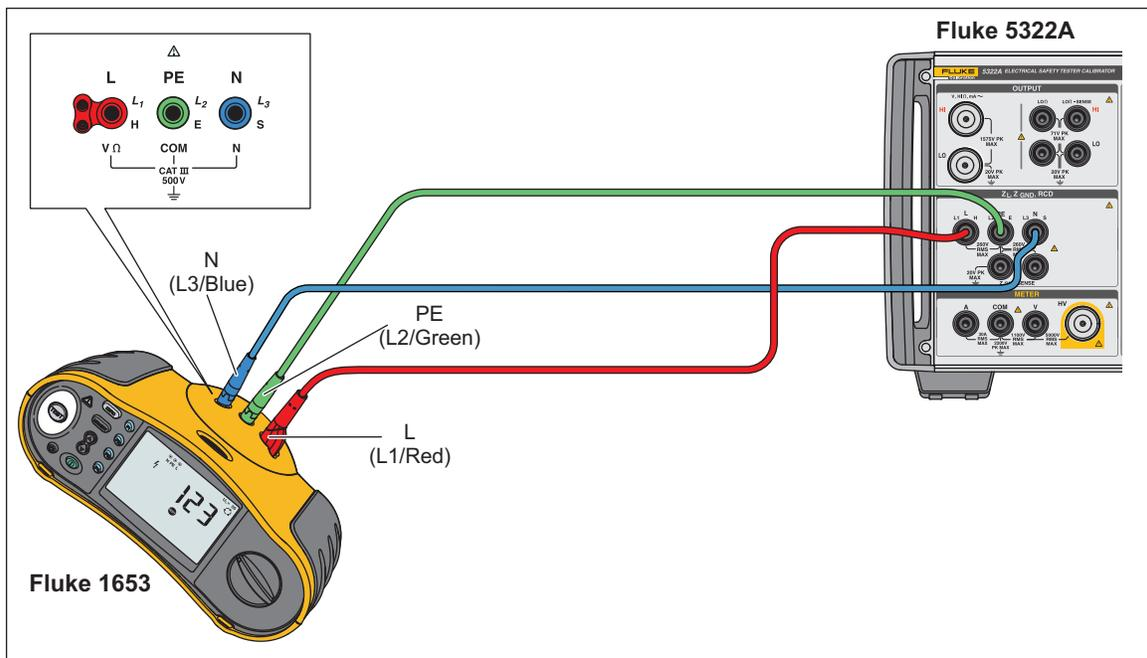

Figure 44. Line and Loop Impedance Calibration on a Fluke 1653
2. Connect the DUT to the L, PE and N terminals of the Product as shown in Figure 44. For some line impedance testers, PE does not need to be connected.
2. Connect the DUT to the L, PE, and N terminals of the Product as shown in Figure 44.